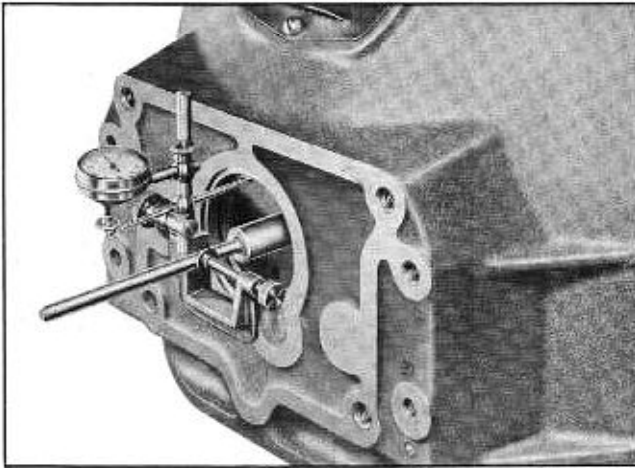

Fig. 7-33 Indicator Positions for Checking Housing Hole
2. Install alignment checking tool J-5128 and install dial indicator on stem of checking tool. Arrange hole attachment of dial indicator so its forward tip contacts inside diameter of pilot hole in flywheel housing (which front transmission bearing enters when transmission is in place) as shown in (Fig. 7-33).